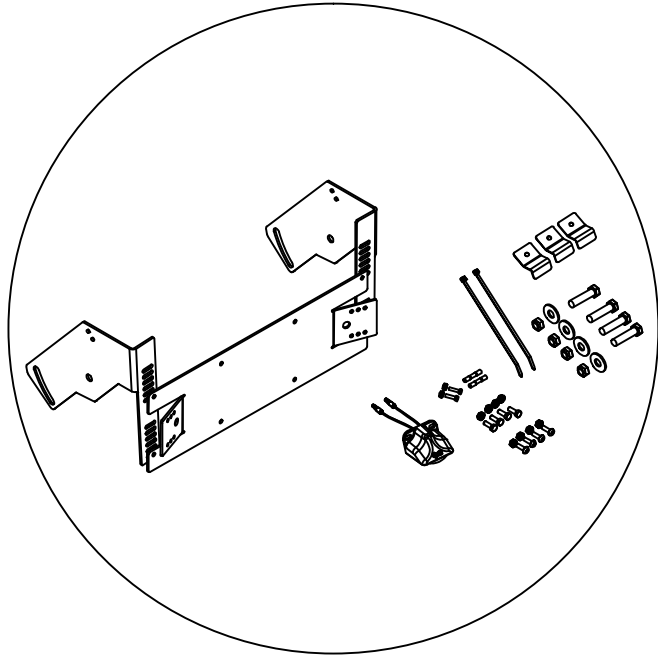

Figure 1: License plate kit.
1. Verify License Plate Kit (Figure 1 and Table 1).